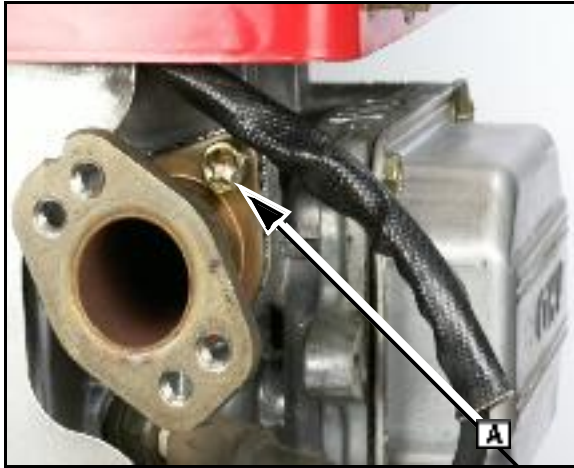

Fig. 30
5. Remove muffler adapter screws ([A] Fig. 30).